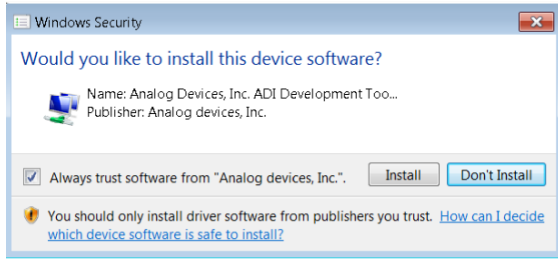
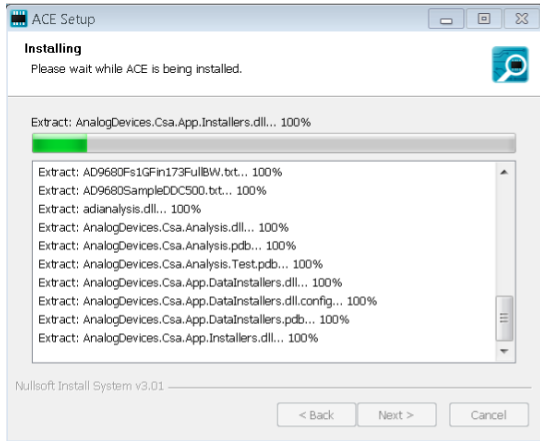

Figure 6. Windows Security Window
Figure 7. Installation in Progress
8. The **Windows Security** window appears. Click **Install** (see Figure 6). The installation is in progress. No action is required (see Figure 7).